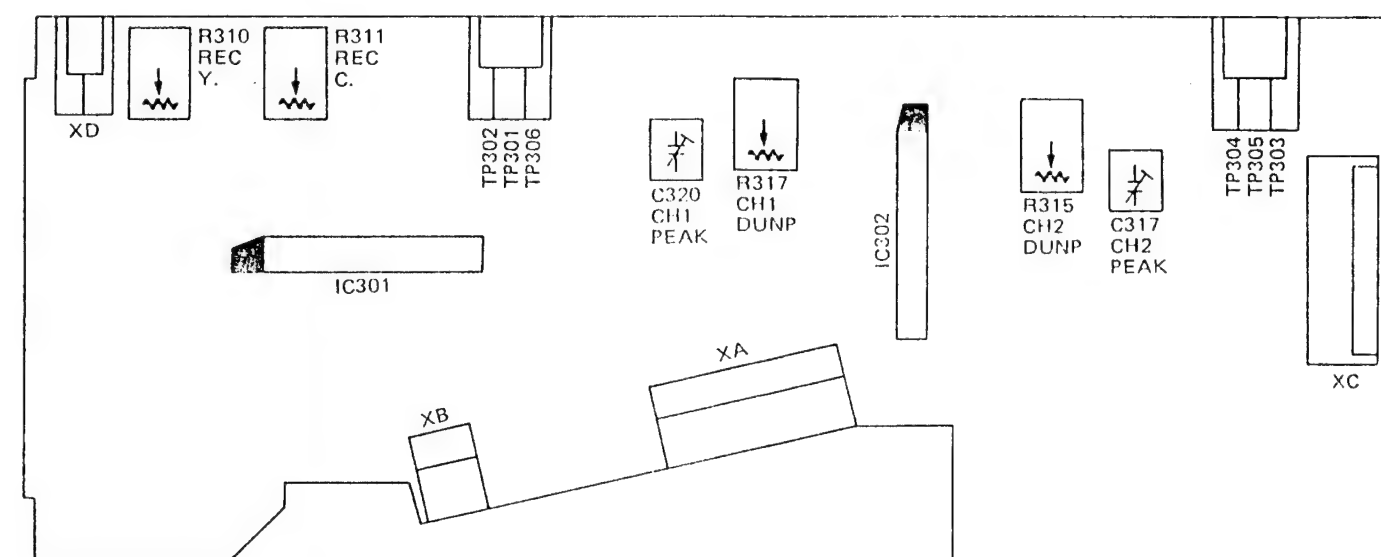

Figure 41.
Deck — (1): DUNTK 1455HE50 (Fig.41)